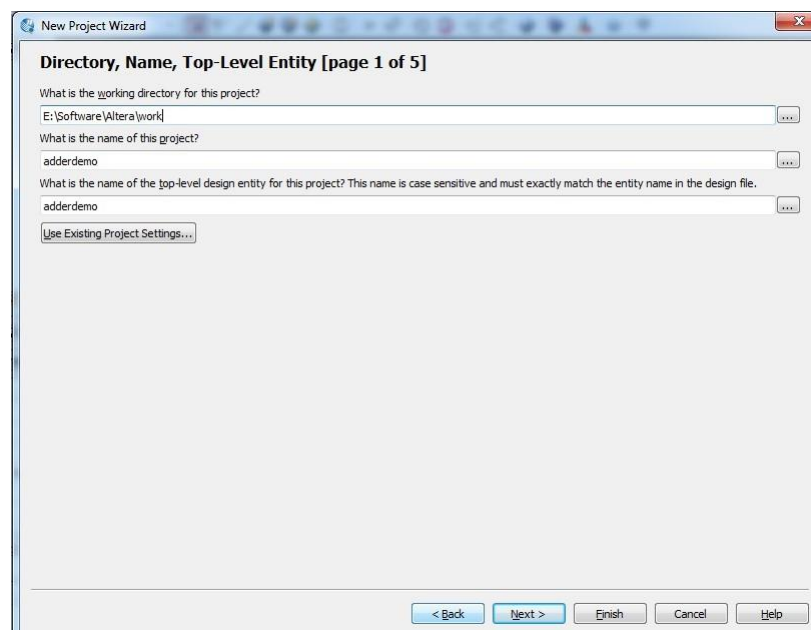

Figure 1
1. Open Quartus II, select **File > New Project Wizard** to reach the window in Figure 1 and choose the working directory and name for the project. The name of top-level design entity usually matches the project name.